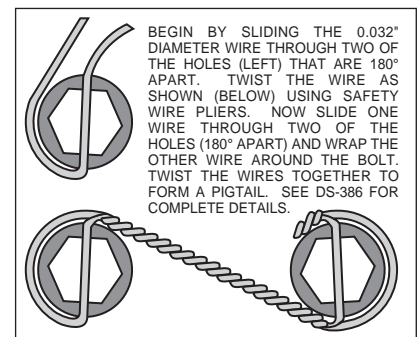

Figure 4. Safety Wire Diagram
- Attach rotor adapter plate (7) to rotor (8) using bolts (9). Torque bolts (9) to 180 in-lb. Safety wire bolts (9) using standard 0.032 inch diameter stainless steel safety wire as shown in Figure 4. Please refer to Wilwood's data sheet DS-386 (available at [www.wilwood.com/pdf/ds386.pdf](http://www.wilwood.com/pdf/ds386.pdf)) for complete safety wire installation instructions. **NOTE:** Dished side of adapter plate (7) should face hub (4). The machined tab side of the iron rotor (8) should face the adapter plate (7).
- Mount the adapter/rotor assembly (7 and 8) to the hub (4) using bolts (10). Torque bolts (10) to 22 ft-lb. Safety wire bolts (10).
- Pack the small outer bearing cone (11) with high temperature disc brake bearing grease and install into front of hub (4). Slide the hub/rotor assembly (4 and 8) with outer bearing cone (11) onto the spindle. Secure using spindle washer (12), stock adjusting nut and nut locking device. Adjust bearings per Original Equipment Manufacturer (OEM) specifications.
- Install the o-ring (13) and then the dust cap (14) onto the hub (4). Friction created by the o-ring (13) on the dust cap (14) keeps it from unscrewing.
- **NOTE:** Please reference the caution statement at the beginning of the assembly instructions. With the bleed screws pointing up, mount the caliper (15) onto the caliper bracket (1) using lock washers (16) and bolts (17). Place two .063 thick flat washers (19) between the caliper (15) and the caliper mounting bracket (1) before sliding the mounting bolts (17) all the way into the caliper mounting bracket (1), finger tighten only. View the rotor (8) through the top opening of the caliper (15). The rotor (8) should be aligned in the center of the caliper (15). If not, adjust the caliper (15) by using 0.032 inch thick shims (18) placed between the caliper mounting bracket (1) and the caliper spacer washer (19). Finger tighten and recheck alignment. Use an many shim washers (18) as necessary to achieve the correct alignment. Apply red *Loctite*® 271 to bolt threads (17) and torque to 30 ft-lb. Safety wire caliper bolts (17).
- Install the disc brake pads (20) and secure using cotter pin (21).